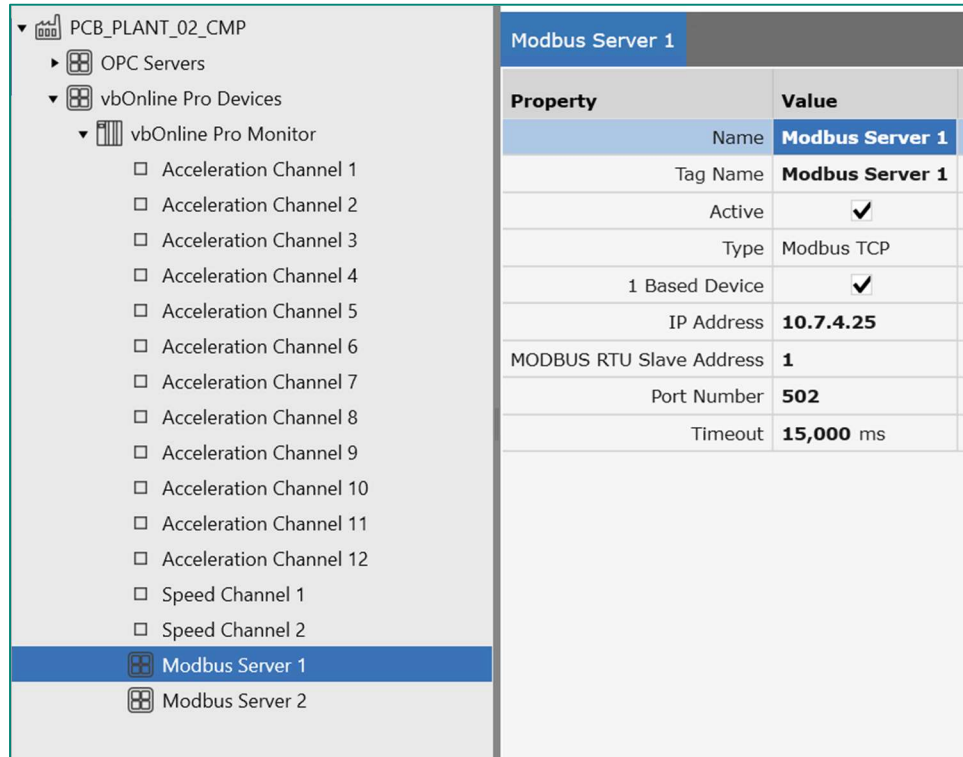

Figure 5 Modbus Server Properties in Configure Workspace
3. Select the added Modbus Server under the vbOnline Pro Device in the Devices hierarchy and enter the Modbus Server properties (Figure 5)